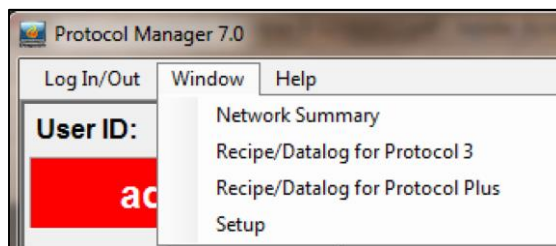
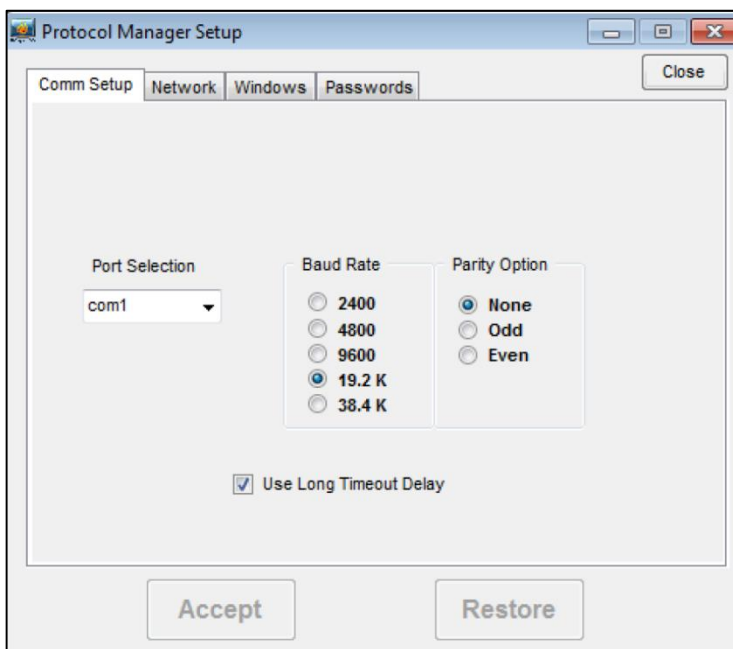

Figure 36. Window Pull Down Menu.
Figure 37. Comm Setup Typical Settings.
2. Click on **Window** and **Setup** (Figure 36) to get to **Comm Setup** (Figure 37).